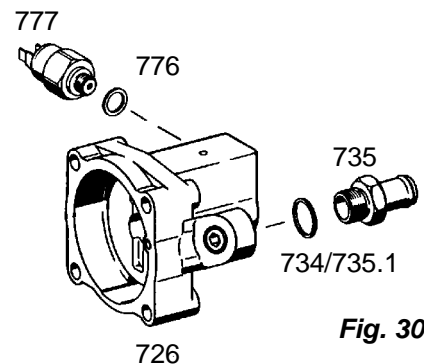

Fig. 30
Screw in the oil pressure switch (777) together with sealing ring (776) (tightening torque 13+2 Nm) (**Fig. 30**).